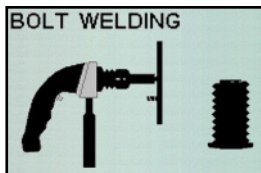

Figure 6.10
2. Select Bolt Welding Program by pressing the Left or Right Navigation Buttons (fig. 4.9). Make sure that Bolt Welding graphic appears on the screen (fig. 6.10)